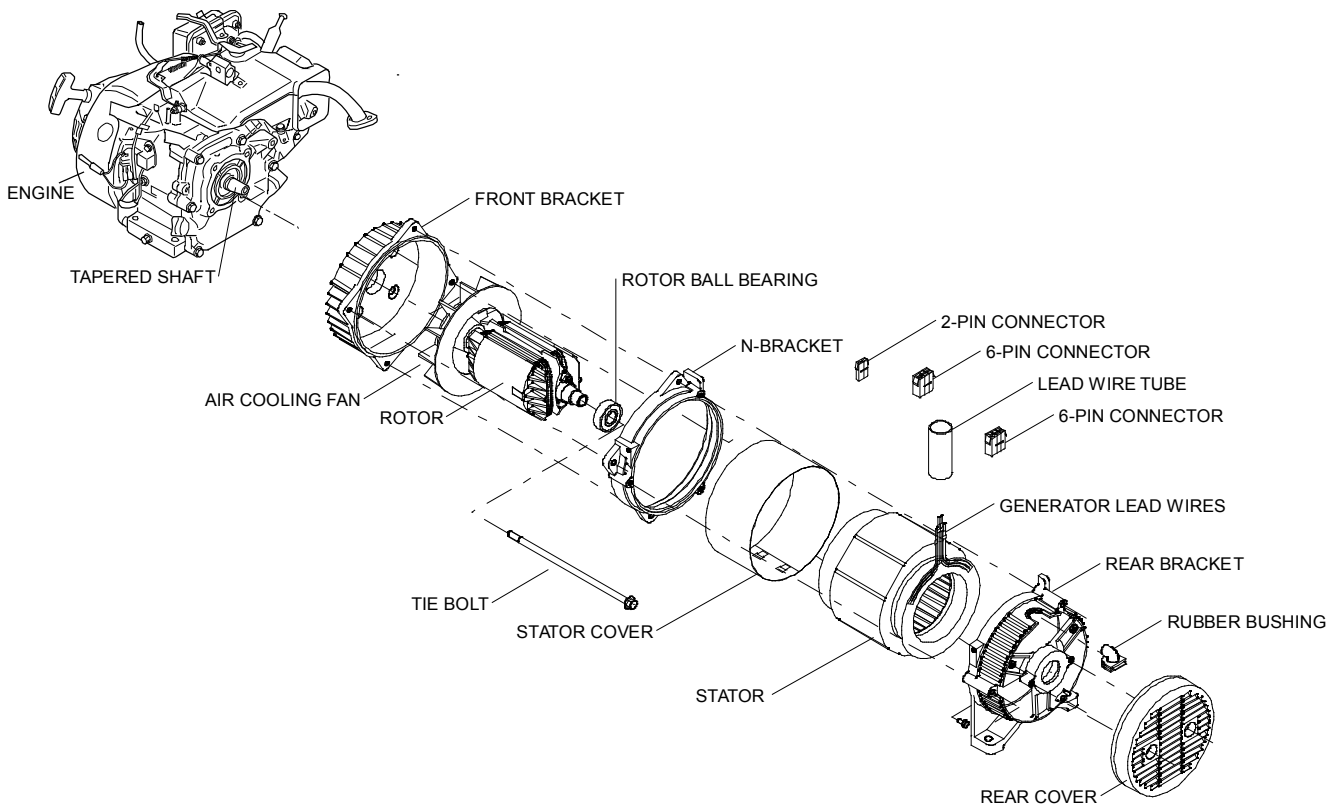

Figure 2-2: Exploded View of TPG4 Generator Components
- (a) The key features of the portable generator are shown in Figure 2-1. An exploded view of a typical generator is provided in Figure 2-2.